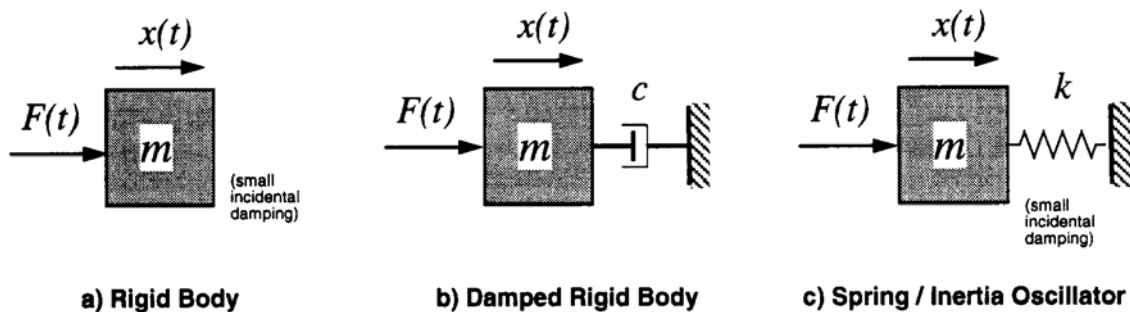

Figure 3.1 System types for step impulse response tests.
This experiment characterizes the response of various system *types* shown in Figure 3.1 to a force step input. As will be studied here and later in the context of harmonically driven response, these systems have qualitatively different dynamic behavior. Hence the term “types” has a special meaning in the parlance of dynamics. Here, “a”, “b”, and “c” in Figure 3.1 are of system types 2, 1, and 0 respectively.
- A. What are the salient position, velocity, and acceleration response characteristics of the three system types shown in Figure 3.1 to a step input? You may neglect the effects of mechanism friction and motor/amplifier nonlinearities in your descriptions. Use Table 3.1 to record your observations – you may photocopy or otherwise reproduce the table. Note the initial position, velocities, and accelerations (at  $t = 0^+$ ) in each case. Describe the relative phasing of the position, velocity, and acceleration curves in the spring/inertia system response. What are the relative amplitudes of oscillation between the position, velocity, and acceleration curves?